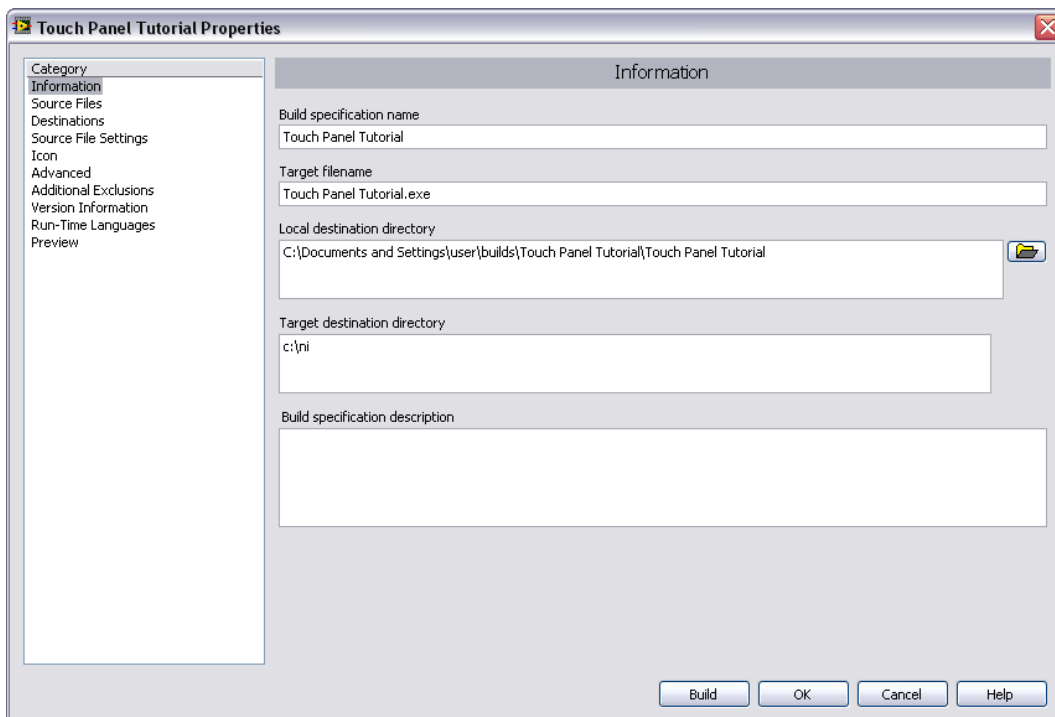

Figure 15. Defining the Touch Panel Application Information
1. Define the settings for the Touch Panel application, as shown in Figure 15.